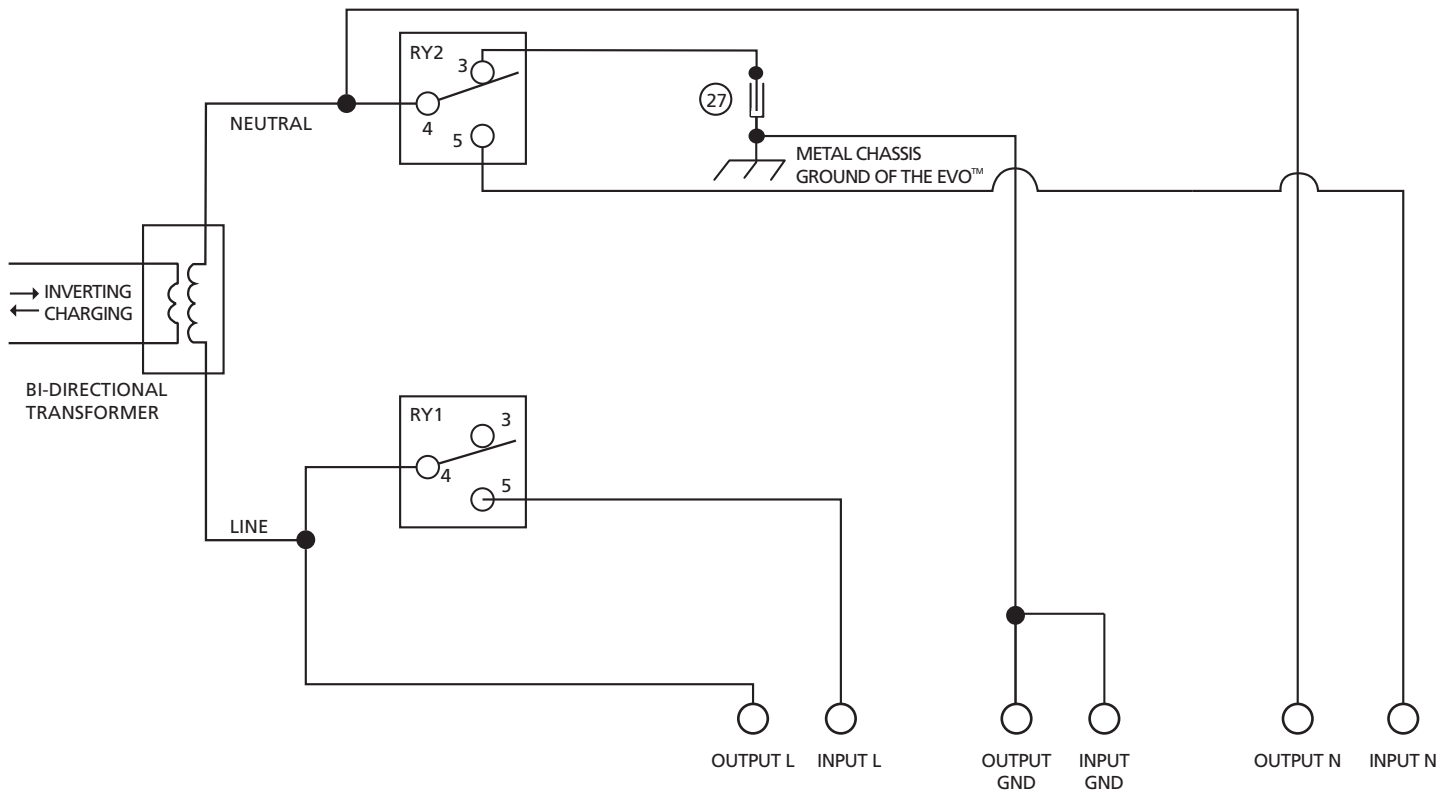

Fig 4.1 Operation of Transfer Relay and Switching of Bond Between Output Neutral and Metal Chassis Ground
Transfer Relay Section is used to either feed AC input power from external AC input source (e.g. Grid/Generator) to the Battery Charger Section and at the same time, pass through the AC power from the external AC input power source to the load (As long as the external AC input power is available and is within the programmed limits of voltage and frequency) or to transfer the load to the Inverter Section (In case of loss of the external AC input power source or if this source is not within the programmed limits of voltage and frequency). Typical transfer time is 16 milliseconds from the AC input source to Inverter and <1ms from Inverter to the AC input source. Heavy duty 40A, Transfer Relay *[RY1, Fig 4.1]* is used for reliable transfer of power.
As required by NEC and UL Standard 458, automatic switching of bonding between the Output Neutral and Chassis Ground has been provided in EVO through “Output Neutral to Chassis Ground Bond Switching Relay” *[RY.2 in Fig 4.1]*. Switching of bonding is carried out as follows:
- (a) When operating as an inverter, the current carrying conductor of the Inverter Section that is connected to the Output Neutral terminal of EVO is bonded to the metal chassis of EVO by the “Output Neutral to Chassis Ground Bond Switching Relay” *[RY.2 in Fig 4.1]*. As the metal chassis of EVO is in turn bonded to the Earth Ground (in shore installations) or to the RV Ground (chassis of the RV) or to the Boat Ground (DC Negative Grounding Bus Bar and the Main AC Grounding Bus Bar are tied together in a boat and this is called the “Boat Ground”), this current carrying conductor of the Inverter Section (connected to the output terminal) will become the Grounded Conductor (GC) or the Neutral of the Inverter Section.
- (b) When in Charging Mode, the Neutral conductor of the AC input source will be connected to the Output Neutral terminal of EVO. At the same time, the “Output Neutral to Chassis Ground Bond Switching Relay” *[RY.2 in Fig 4.1]* will unbond (disconnect) the Output Neutral connector of EVO from the metal chassis of EVO. This will ensure that the Grounded Conductor (GC) i.e. the Neutral of the AC input power source is bonded to the Earth Ground at one single point at the location of the AC Power Distribution System of the Marina/RV Park/Shore Power.
- (c) **Disabling Neutral to Ground Bond:** In some applications, the Output Neutral of EVO may be required to remain isolated from the chassis/Ground at all times. For this, automatic Output Neutral to Ground bond can be disabled by disconnecting the Male/Female Quick Disconnect located in the AC wiring compartment. [Please see (i) 27, Fig 3.9.2(a) and (ii) 27 in Figs 4.1]
Refer to Schematic at Fig 4.1.
- o 40A* rated SPDT Relay RY1 (Fig 4.1) is used to switch the Hot Output Connector (OUTPUT L) to either the Inverter Section or to Grid / Generator. (*Refer to Note 2 under Legend for Fig 4.1)
- o When Grid / Generator input Power is available, Relay RY1 (Fig 4.1) will be energized and contact 4 switches over to contact 5. The Bidirectional Transformer works as a battery Charger. The Hot AC input from Grid / Generator (INPUT L) is fed to the Hot input of the Bi-directional Transformer for battery charging and at the same time, it is passed through to the Hot Out (OUTPUT L) for powering the AC loads.
- o When Grid / Generator power fails, Relay RY1 (Fig 4.1) will be de-energized and contact 4 switches back to contact 3. Output from the Inverter Section is fed to the Bi-directional Transformer and onwards to the Hot Out (OUTPUT L) for powering the AC loads.
- o 40A* rated SPDT Relay RY2 (Fig 4.1) is used to switch the bonding of the Output Neutral Connector (OUTPUT N) to the chassis of the unit. (*Refer to Note 2 under Legend for Fig 4.1)
- o When Grid / Generator input power is available, Relay RY2 (Fig 4.1) will be energized and contact 4 switches over to contact 5. Neutral input from Grid (GRID N) is fed to the Neutral input of the Bi-directional Transformer for battery charging and at the same time, it is passed through to the Output Neutral (OUTPUT N) for powering the AC loads. Please note that in this condition, the Output Neutral (OUTPUT N) is isolated from the chassis of the unit
- o When Grid / Generator input power fails, Relay RY2 (Fig 4.1) will be de-energized and contact 4 switches back to contact 3. Neutral output from the Inverter Section is fed the Neutral of the Bi-directional Transformer and onwards to the output Neutral (OUTPUT N) for powering the AC loads. At the same time, the output Neutral (OUTPUT N) gets bonded to the metal chassis of the unit through the mated contacts of the Insulated Male / Female Quick Disconnect (27, Fig 4.1) located in the AC Wiring Compartment [27, Fig 3.9.2(a)] in EVO-1212F-HW / 1224F-HW. In EVO-1212F / 1224F, the Insulated Male / Female Quick Disconnect is accessible after opening the top cover of the unit.
LEGEND for Fig 4.1